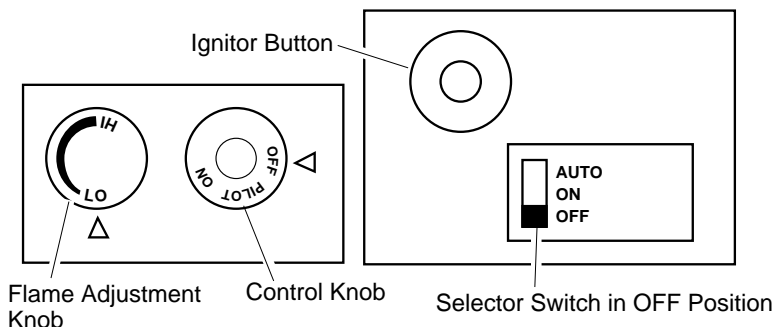

Figure 37 - Control Knob and Ignitor Button Location (Shown as Supplied, No Control Options)
- Wait five (5) minutes to clear out any gas. Then smell for gas, including near the floor. If you smell gas, **STOP!** Follow "B" in the safety information, column 1. If you don't smell gas, go to the next step.
- Press in and turn control knob counterclockwise to the PILOT position. Press in control knob for five (5) seconds (see Figure 37).